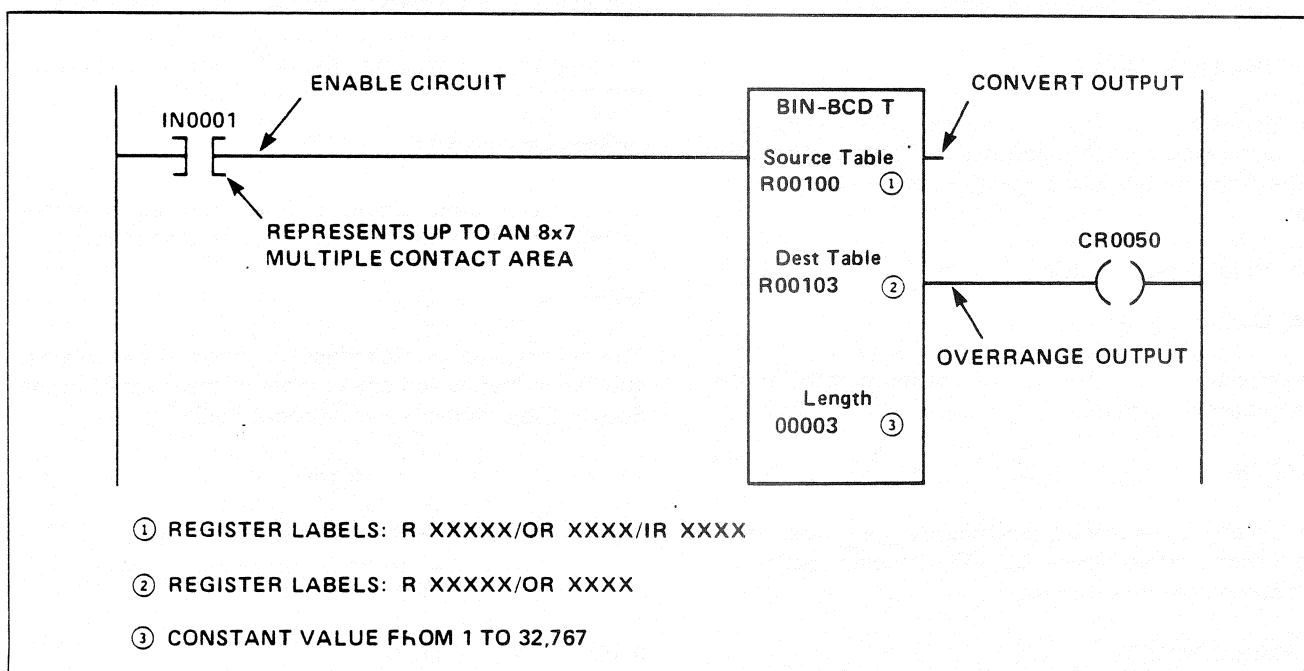

Figure BD-1. Binary-to-BCD Table Circuit (Typical)
The Binary-to-BCD Table programmable function converts a table of registers, referred to as the Source Table, from binary data into binary coded decimal (BCD) format. It then stores the result in a table of registers referred to as the Destination Table. Observe Figure BD-1 and note the following 5 points:
2. The Source Table Register specifies the first register in the Source Table. In the example of Figure BD-1, it is holding register R00100.